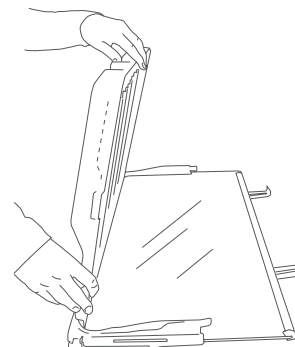

Fig.25 Hold the lid vertically for cleaning
- 3 Hold the lid up vertically (refer to Fig.25) and clean the underside of the shelf and lid.